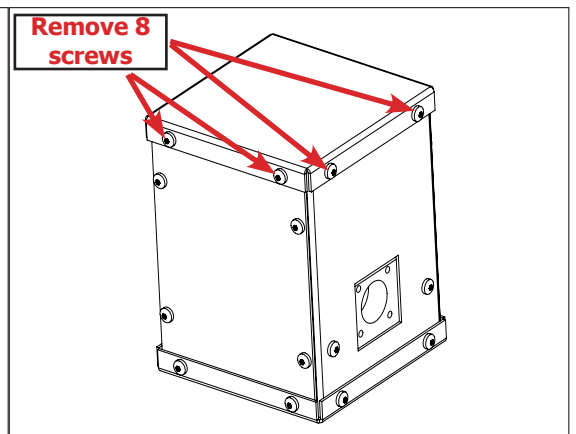

Figure 25: Valve Box Lid Removal
5. Remove the 8 screws around the top of the valve box (Figure 25) and pop off the top piece to gain access to the valve.